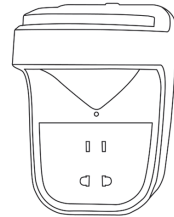

Fig. 3
- 1** Loosen the screw which on the bottom of the dryer holder, disassemble the front cover (fig. 3)